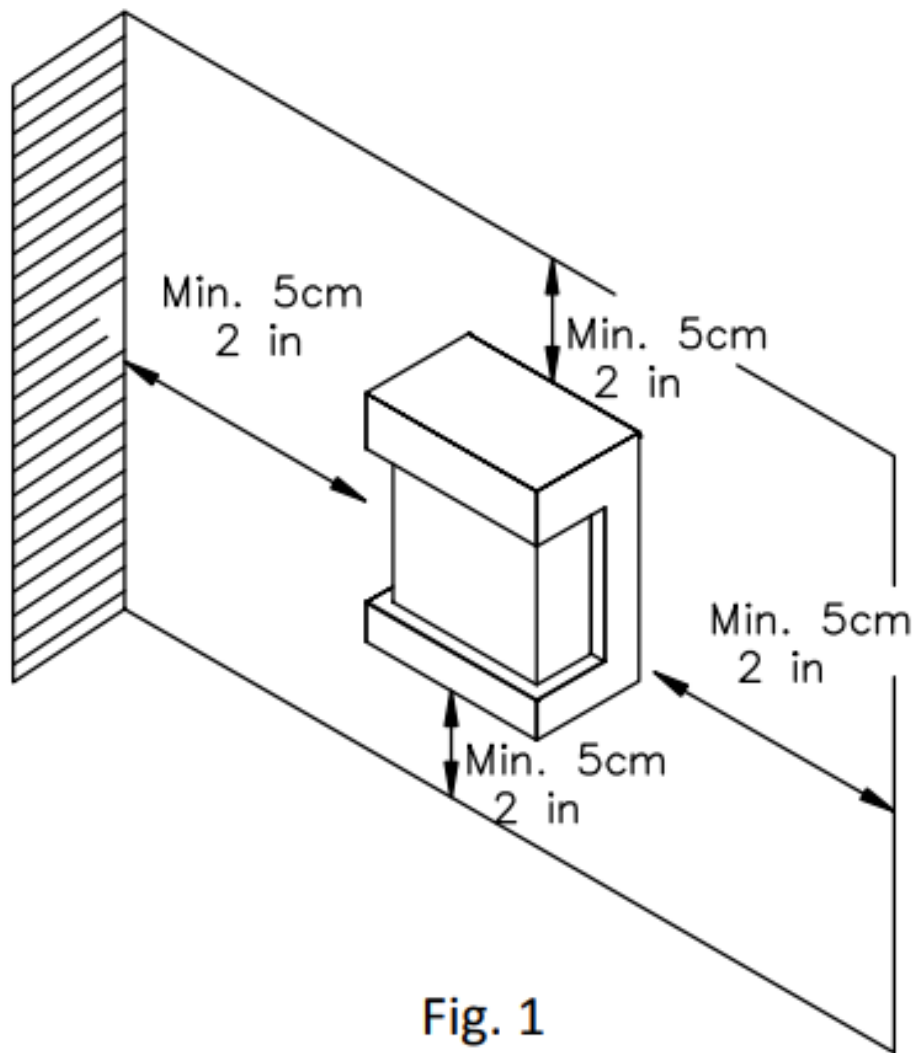

Fig. 1
2. Select a suitable position in which the heater horizontally – use a spirit level to achieve this (Fig. 1).